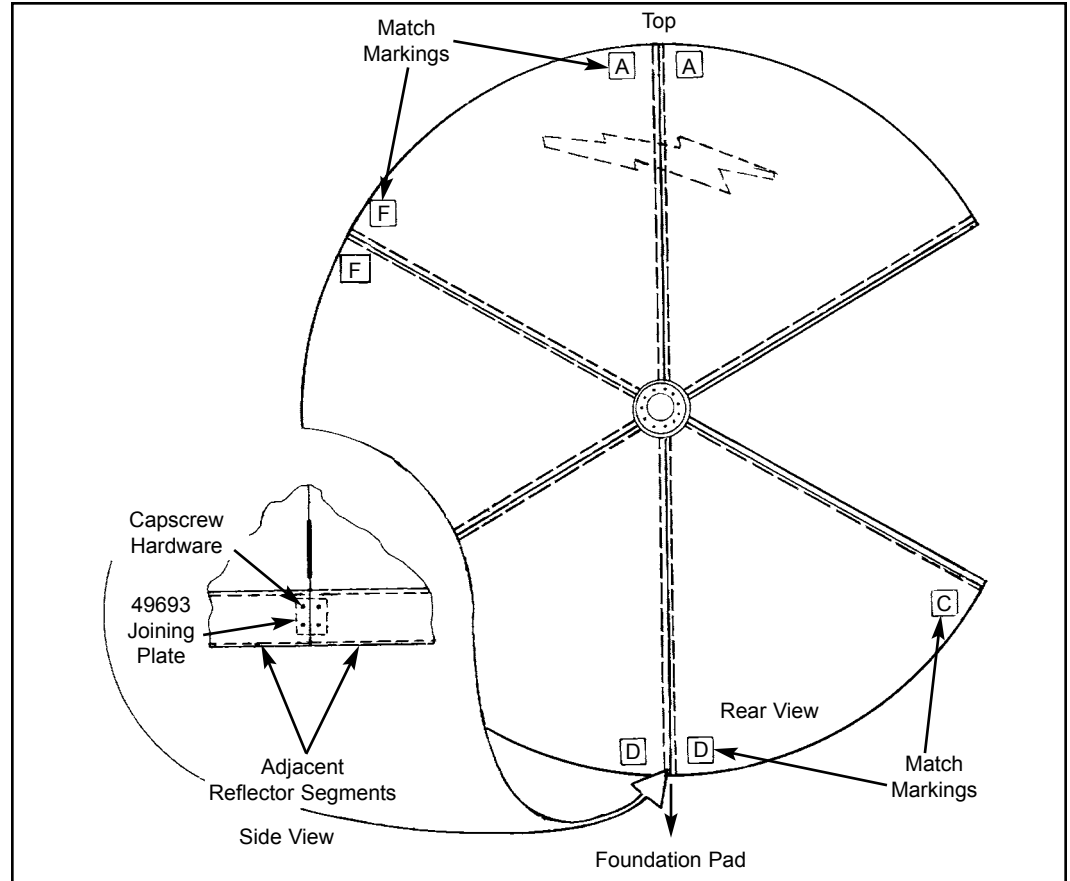

Figure 58
- Step 7** Loosely attach joining plate (P/N 49693) along **A-A** seam inside reflector rim as shown in Figure 58.